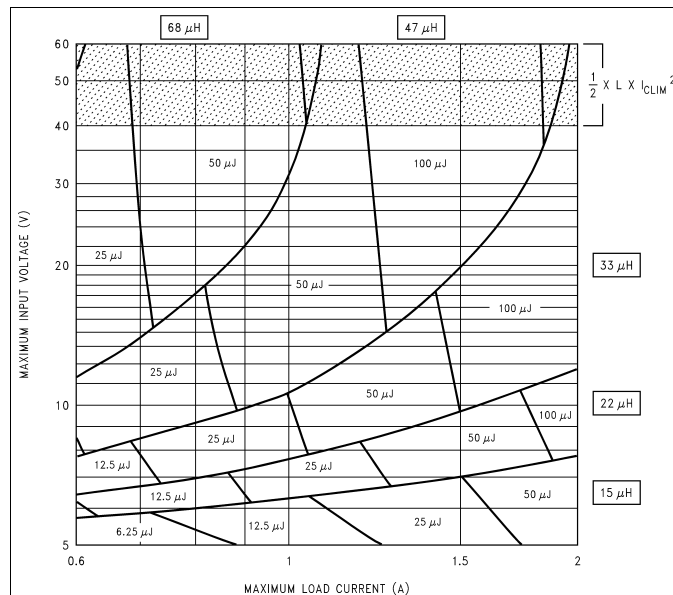
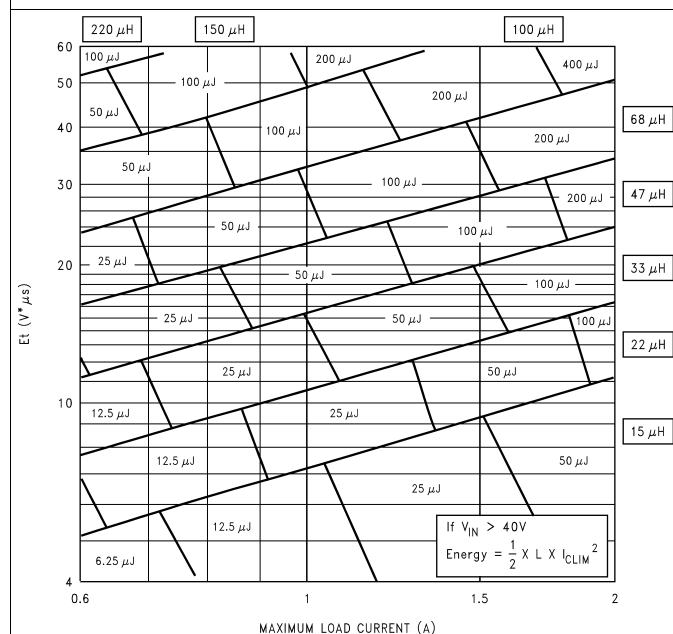

Figure 33. LM2593HV 3.3-V
Figure 35. LM2593HV Adjustable Voltage
See application note *AN-1197 Selecting Inductors for Buck Converters* (SNVA038) for detailed information on inductor selection. For a quick-start, see the nomographs provided in Figure 33 to Figure 35. To widen the choices to a more general selection of available inductors, the nomographs provide the required inductance and also the energy in the core expressed in microjoules (μJ), as an alternative to just prescribing custom parts. The following points must be highlighted:
5. Figure 35 shows the inductor selection curves for the adjustable version. The y-axis is Et , in $\text{V}\mu\text{s}$. It is the applied volts across the inductor during the ON time of the switch ($V_{\text{IN}} - V_{\text{SAT}} - V_{\text{OUT}}$) multiplied by the time for which the switch is on in μs . See Example 3.
- Because input voltage is less than 40 V, a first pass inductor selection is based upon inductance and rated maximum load current. Choose an inductor with the inductance value indicated by the nomograph Figure 35 and a current rating equal to the maximum load. But first calculate E_t for the given application. The duty cycle is Equation 5.
- Therefore, looking at Figure 33, quick-select a 47- μH , 2-A inductor (designed for 150-kHz operation) for this application.
- Confirm that it is rated to handle 200 μJ (see Figure 35) by the procedure shown in *AN-1197 Selecting Inductors for Buck Converters* (SNVA038) and that the losses are acceptable. (If the DC input voltage had been greater than 40 V, consider e_{CLIM} as in Example 2).